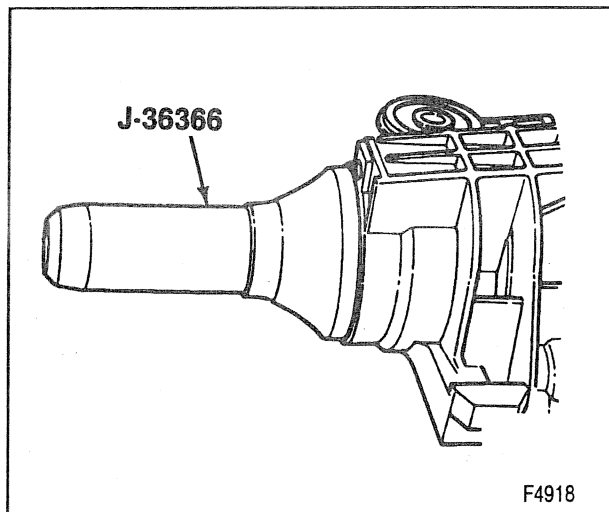

Figure 29—Installing the Pinion Seal
- Oil seal using J 36366 (figure 29).